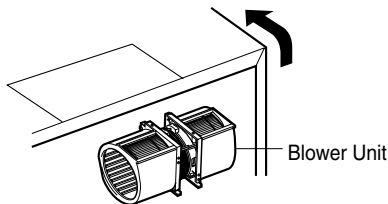

Figure 23
4. Rotate blower unit 90° so the exhaust ports face the front of the cabinet. See Figure 23.